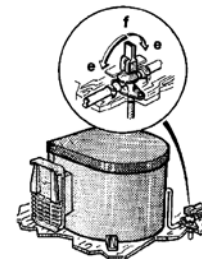

Fig. 1
1. Check that the safety/drain valve in the cold water intake is closed. Lever should be in horizontal position, position (e) Fig. 1.